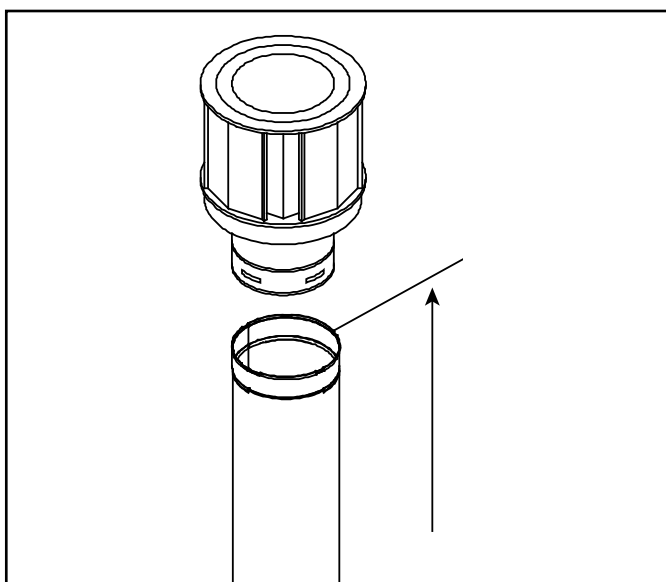

Figure 4.10 Measure to Top of Last Section of Pipe
- Vertical terminations are measured to top of last section of pipe. See Figure 4.10.